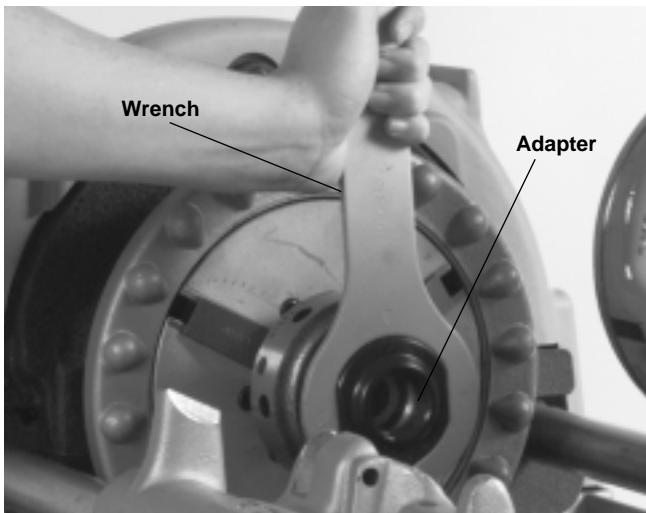

Figure 20 – Installing Nipple Chuck Body
2. Place nipple chuck body (*Figure 20*) in Threading Machine chuck, gripping jaw grooves. Tighten chuck with snap spin of handwheel.
into nipple chuck (*Figure 20*) by hand. Tighten with wrench provided with nipple chuck.